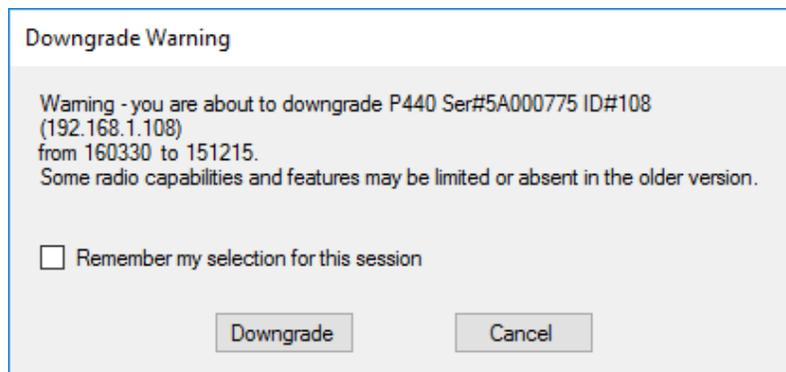

Fig. 6: Downgrade Warning
- Starting the downgrade will provoke the reminder shown in **Figure 6**. This is your last chance to abort the download.